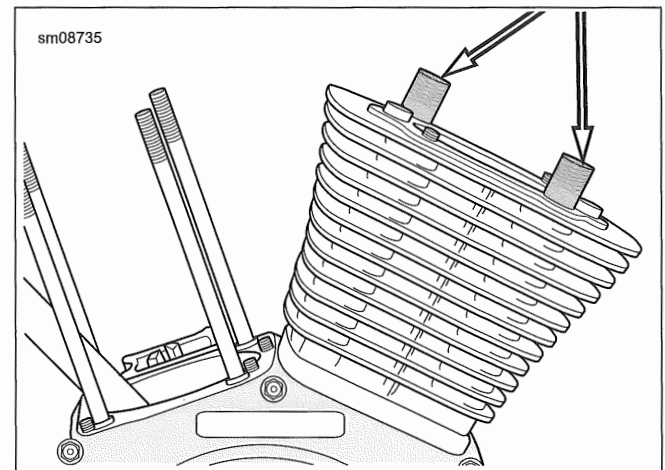

Figure 4-38. Install Threaded Cylinders to Studs
- h. See Figure 4-38. Install HD-52020 (CYLINDER HOLD-DOWN NUTS) onto cylinder studs.